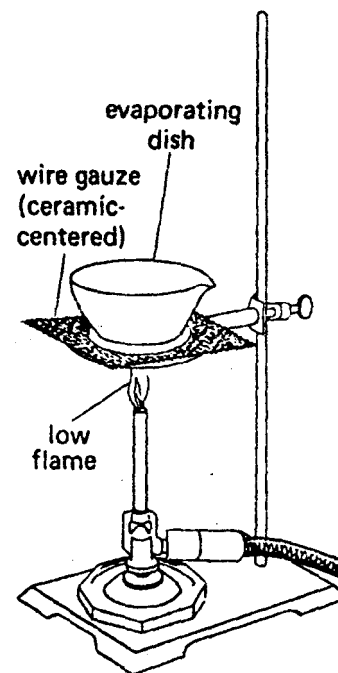

Figure 1-14
5. The salt may be recovered from the filtrate by pouring the filtrate into an evaporating dish and evaporating it nearly to dryness. See Figure 1-14 for the correct setup.